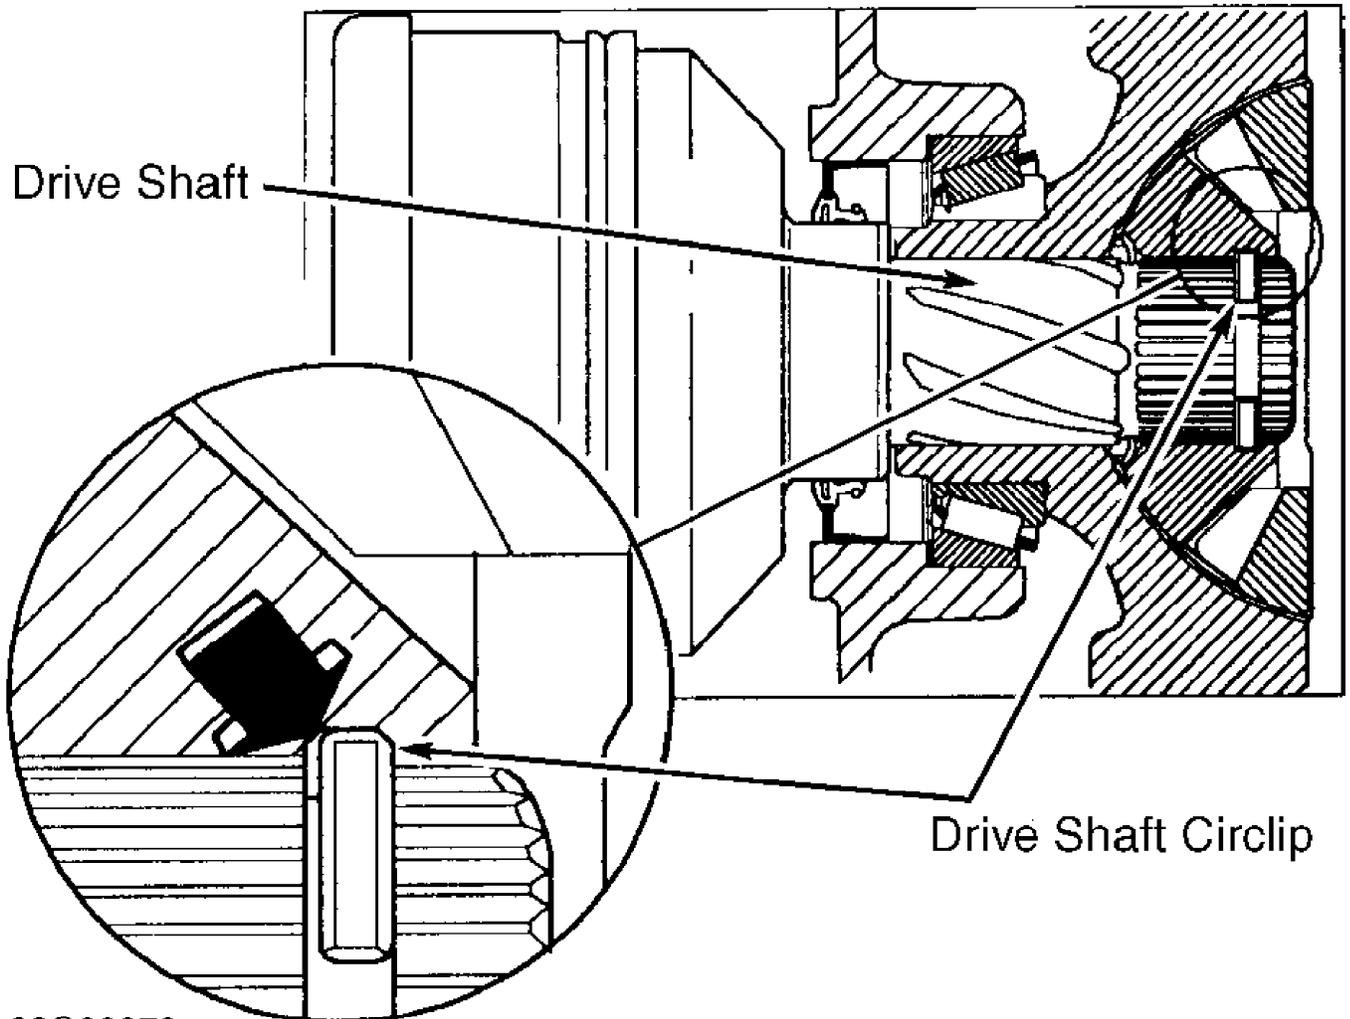

Fig. 1: Installing Left Drive Shaft
1) For right drive shaft installation, install bearing cap and tighten to 18 ft. lbs. (25 N.m). For left drive shaft installation, ensure ABS sensor wheel on drive shaft is free of dirt. Push drive shaft in so it engages with differential. Ensure drive shaft circlip snaps into place. See Fig. 1. Use care not to damage